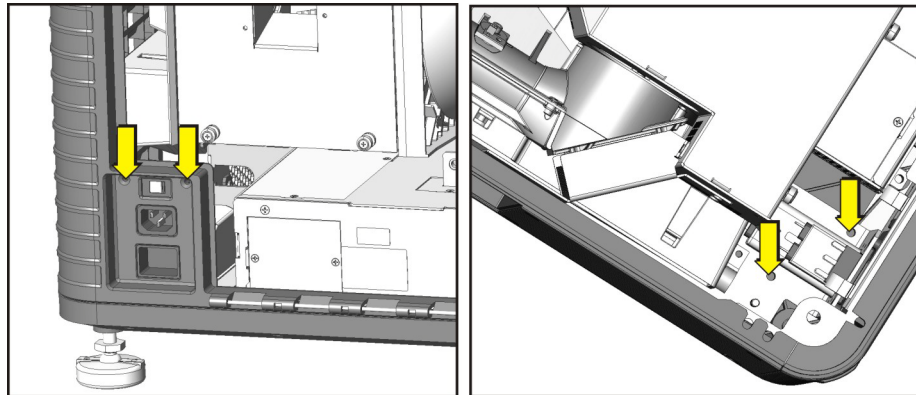

Figure 5-50 Remove AC Line Filter
6. Remove the two M5 screws securing the AC line filter on the inside of the projector housing. (Figure 5-50)
7. Remove the two M3 screws securing the AC line filter on the outside of the projector housing. (Figure 5-50)
6. Remove the two M5 screws securing the AC line filter on the inside of the projector housing. **(Figure 5-50)**
7. Remove the two M3 screws securing the AC line filter on the outside of the projector housing. **(Figure 5-50)**